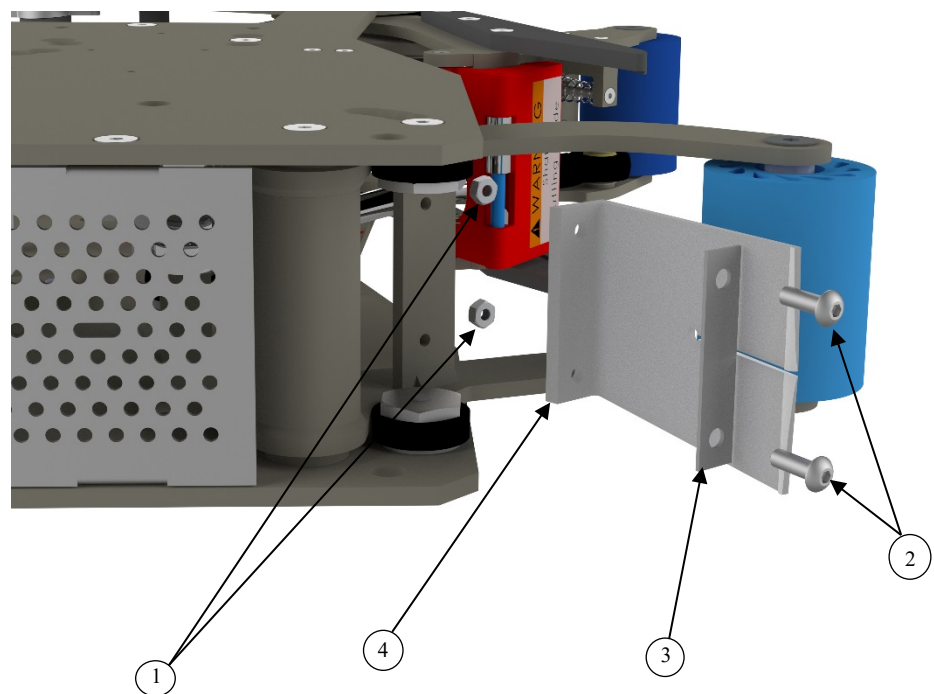

Figure 10-18
2. Unscrew the two M4 bottom head countersunk screws (**item 2**).
4. Install new Wiper Tabs with two M4 button head screws as shown in **Figure 10-18**. Check for the correct orientation. Peel off removable label.